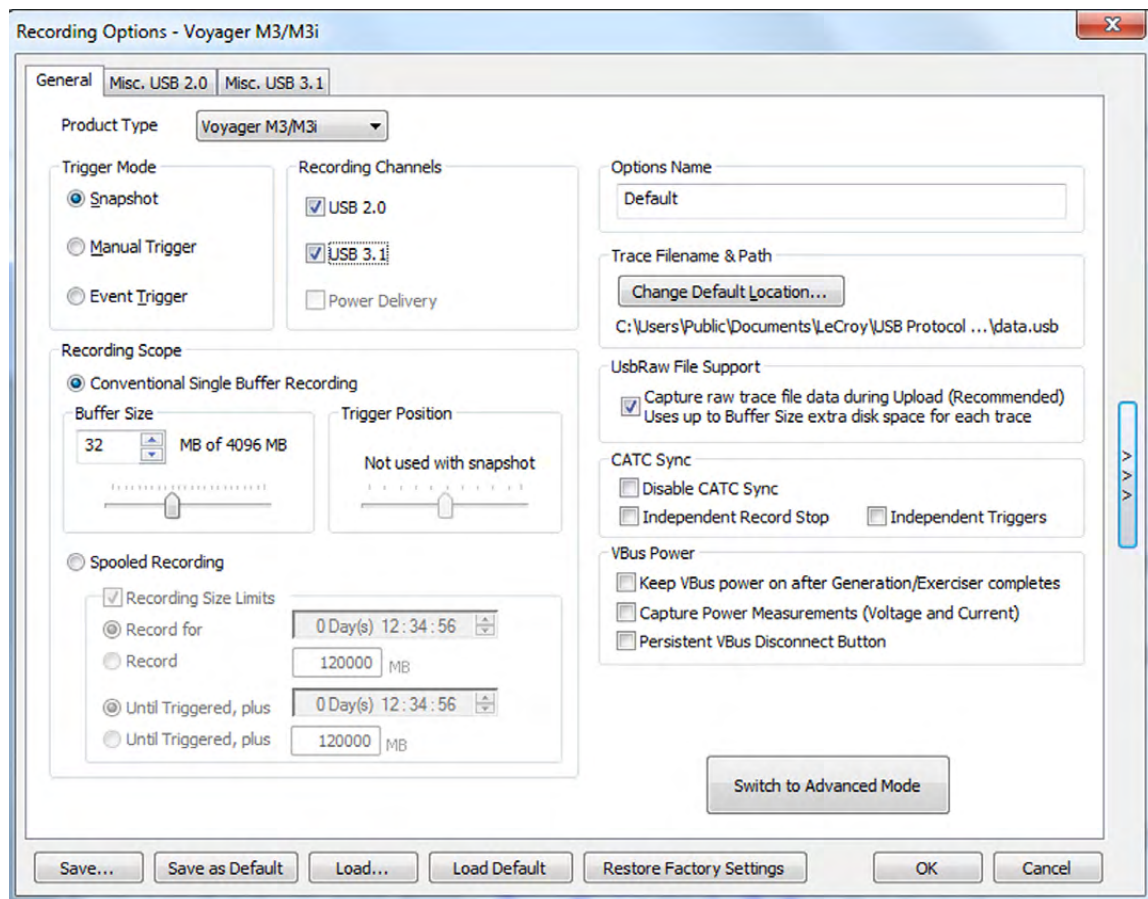

Figure 3.10: Recording Options - Voyager Dialog.
3. Select the **General** tab to display a dialog box showing factory default settings, such as Snapshot and 4 MB buffer size (see Figure 3.10 on page 122). For the first recording, you can leave these settings unchanged. Under Recording Channels, select **2.0** to record USB 2.0 traffic.